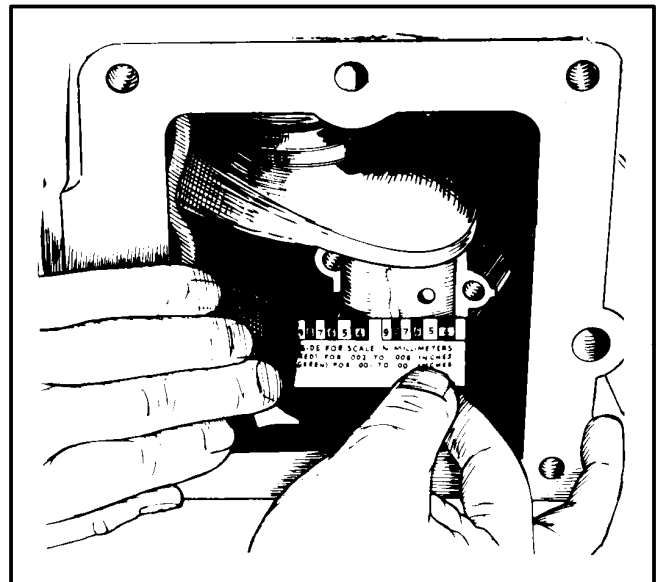

FIGURE 10-26. BOTTOM MAIN BEARING INSTALLATION MEASURING BEARING CLEARANCE
2. Place a piece of correct size Plastigauge in the bearing cap the full width of the journal surface and about 1/4 inch (6.35 mm) off center as shown in Figure 10-26.